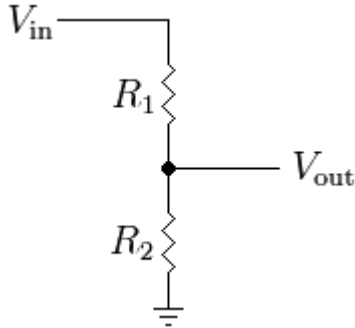

Figure 3: Simple resistive voltage divider
Once the sampled voltage flows into the relay, it can be input into a logic gate to compare it to a given voltage. Two-input logic gates work by producing an output through some combination of inputs. For example, if Input 1 (V_{OUT}) in Figure 3 drops to 0 V when a fault occurs on the line, its input into the gate will be false (0). Under normal circumstances, the output from the gate should be 0, which means no warning lights will be activated and the circuit breaker will not be tripped. When a fault occurs, the output should change to true (1).